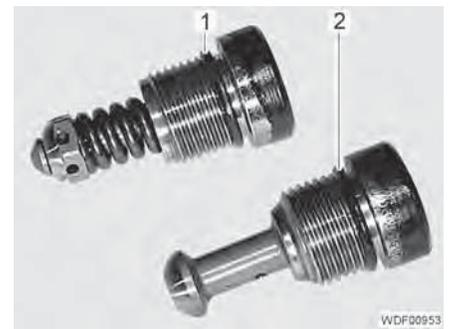

Fig. 182 O-rings
- Replace the O-rings (Fig. 182,1 and 2).